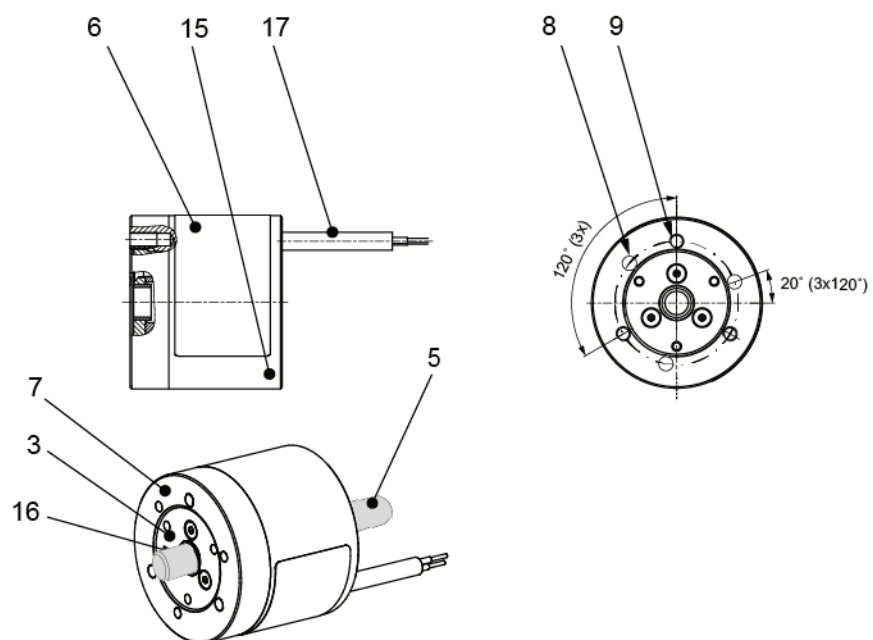

Fig. 2 (Size 10, 15)
- ☐ The brake clamping element (Cone armature item 19) is pulled against the spring through application of the voltage. The piston rod can be moved (Illustration 1).
- ☐ The spring has an effect on the clamping element (Cone armature item 19) of the brake through switch-off the voltage. The piston rod is clamped (Fig. 2).